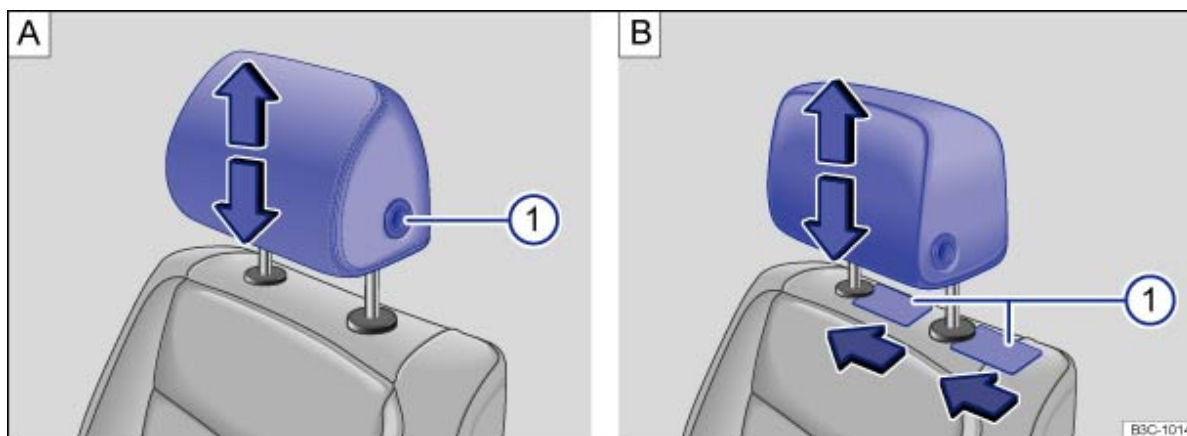

Fig. 47 Removing front head restraints: for vehicles without (A) and with (B) with longitudinally adjustable head restraints
- Properly press and hold the button → Fig. 47 A  and pull the head restraint out fully.
- Insert a flat object, e.g. a plastic card, each between the seat cover and the cover of the rods holding the head restraint and release the rods simultaneously using slight force → Fig. 47 B .
- Properly press and hold the button → *Fig. 47 A*  and push the head restraint downwards.